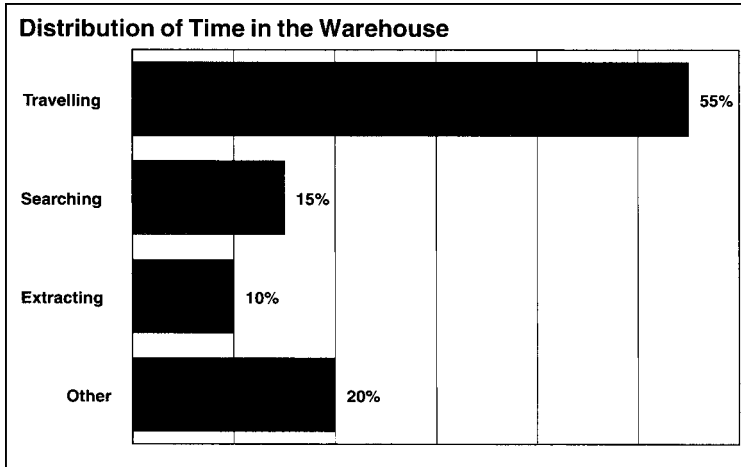

Figure I-7.6 Distribution of Time in the Warehouse
5. *Examine physical layouts.* Traveling inside the warehouse just to pick product is the most time-consuming activity (see Figure I-7.6), so it makes sense that you should start with the layout of the facility when designing your warehouse logistics system. “You can’t make improvements if the site is laid out wrong or improperly racked,” says Marek.